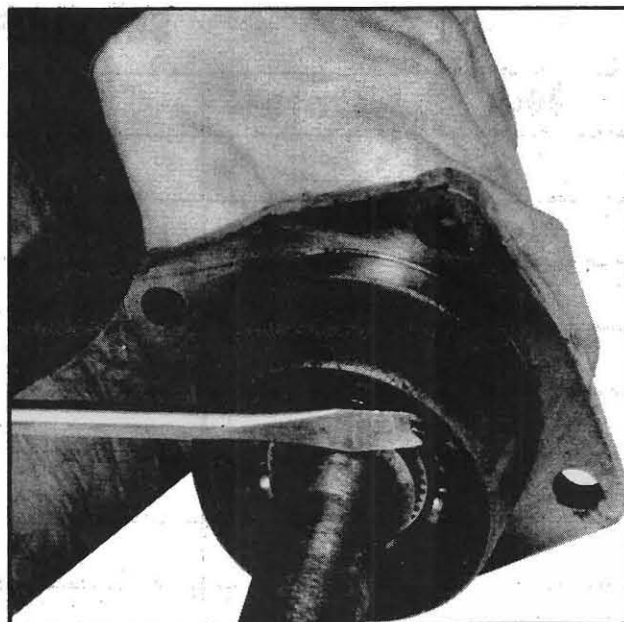

Fig. 282
2. Remove the large internal snap ring from the inside of the PTO housing, as shown in Fig.282 and with a lead hammer, carefully drive the PTO shaft, bearing and sleeve from the housing.